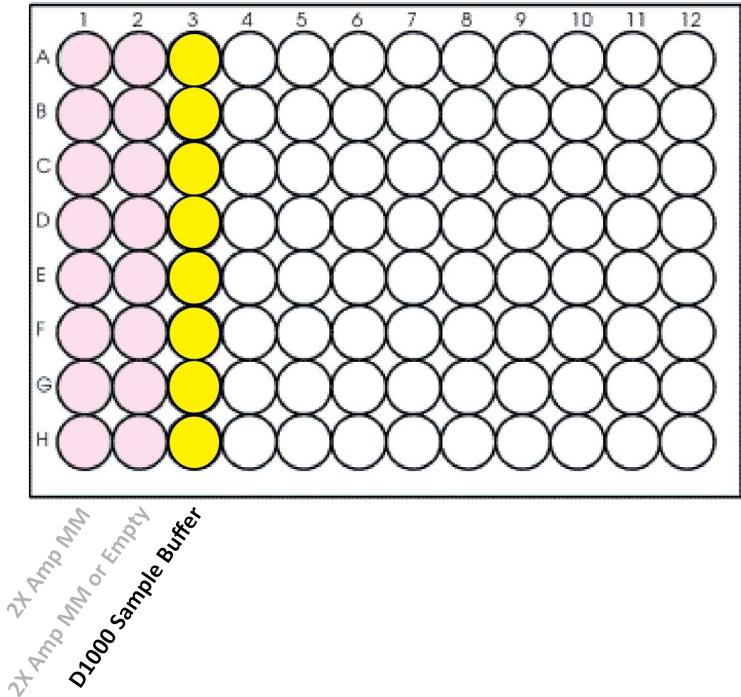

Figure 7 Configuration of the Sample Buffer source plate for protocol TS_D1000. Columns 1–2 were used in the previous protocol.
- 5 For the Sample Buffer source plate, use the same **processing plate** (Eppendorf twin.tec or Armadillo) that was used as the 2X Amplification Mastermix source plate or 2X Methyl Amplification Mastermix source plate in the PCR indexing protocol. Prepare the Sample Buffer source plate at room temperature. Add the volume of D1000 Sample Buffer indicated in Table 46 to each well of column 3 of the plate. The final configuration of the Sample Buffer source plate is shown in Figure 7.